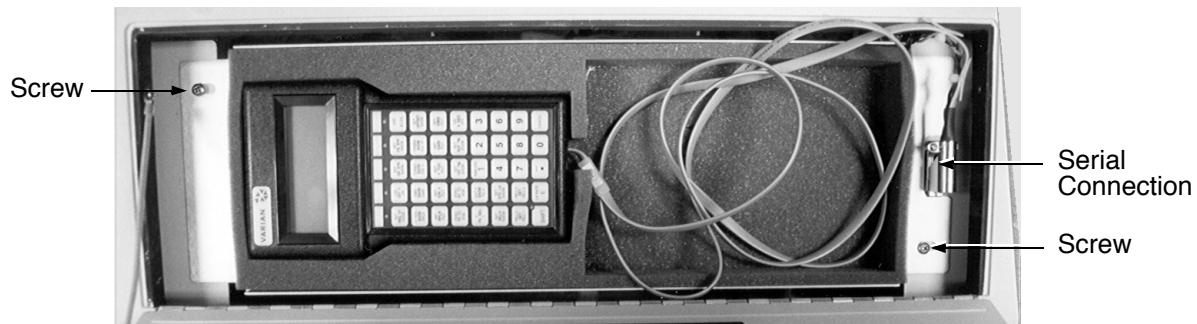

Figure B-1 Removing the Service Pendant Shelf
1. Loosen the screws of the service pendant serial connection and remove the connection (Figure B-1).